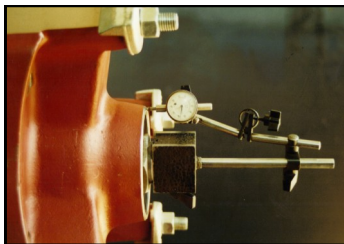

Fig 7.
Step 6. Check the hub bearing end play with a dial gauge indicator, Fig 7. Ensure the hub is rotated slightly back and forth before reading is determined. Record this reading.
At this stage, refit the hub following the previous steps 4,5 & 6 and check that you have an clearance result of approximately 0.002", **Fig 7**. If you do not have the correct setting, repeat **steps 2 - 9**. Once familiar with the procedure, small adjustments can be made to reach the ideal 0.002" using just **step 8**.
4. **Re-check that the bearing clearance is within the specified dimensions. Fig 7.**